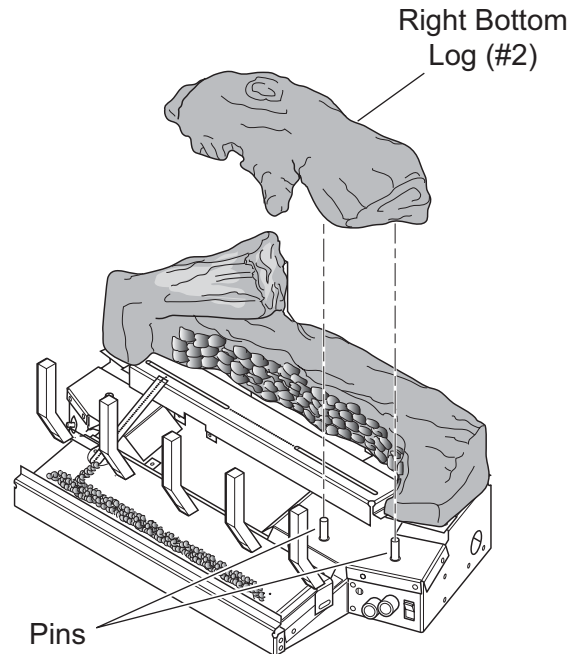

Figure 31 - Installing Right Bottom Log (#2)
2. Install right bottom log (#2) on two (2) pins located on right side of base. *See Figure 31.*